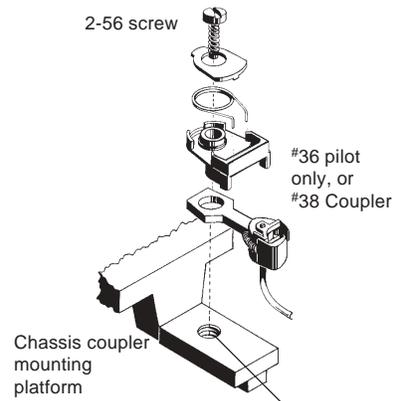

Fig. 1
3. Assemble the 30-Series Couplers per instructions with the Torsion Spring on top and no Lid and secure to mounting pad with a 2-56 screw of appropriate length. See Fig.1.